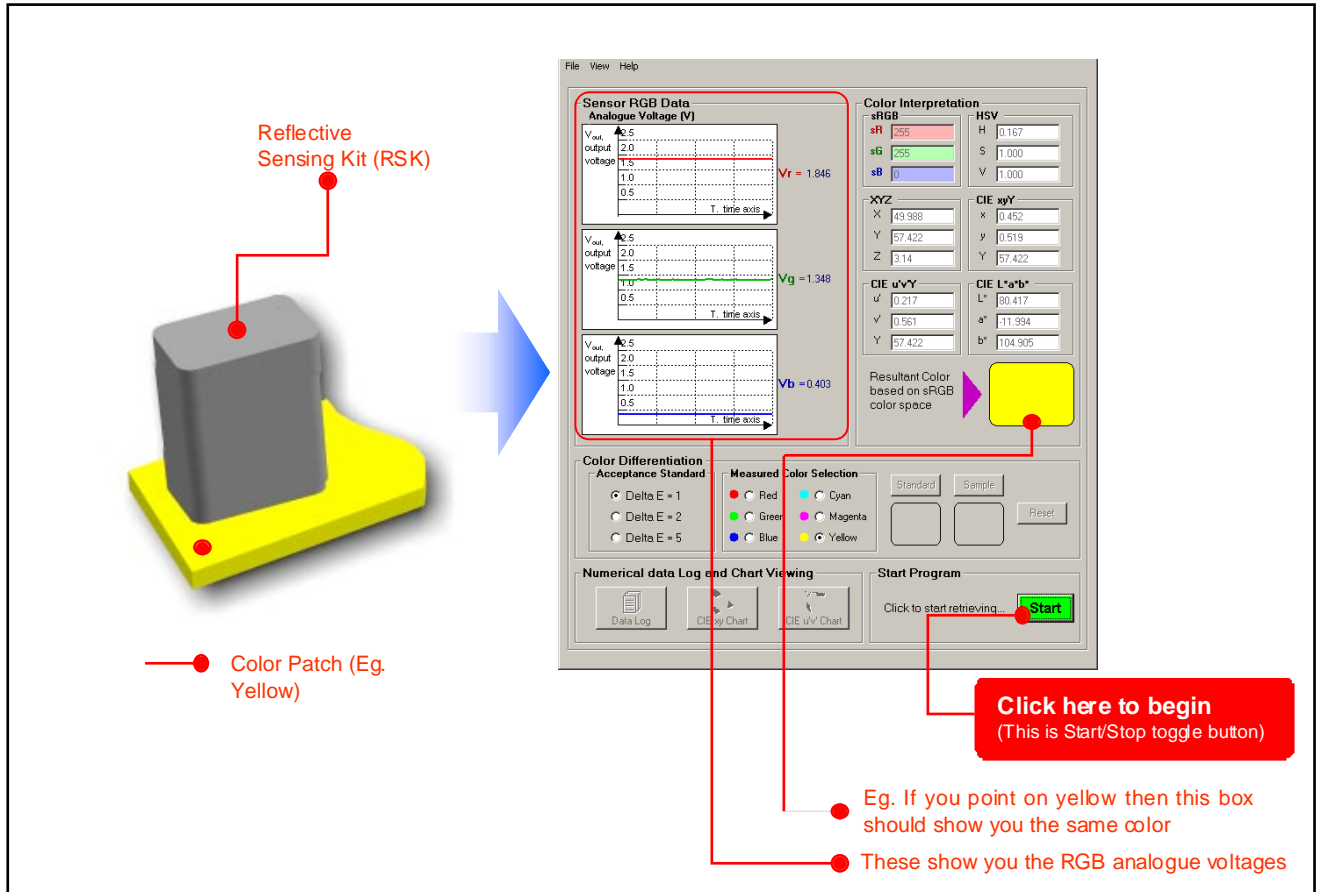

Figure 7.2
- Place Reflective Sensing Kit (RSK) on assigned color as shown in Figure 7.2.